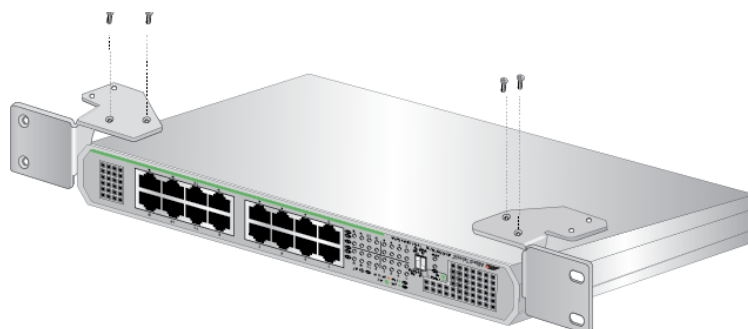

Figure 18. Attaching the Brackets to the AT-GS910/16 Switch
3. Orient the brackets against the sides of the switch and secure them to the switch with the four screws as shown in Figure 18 on page 39.